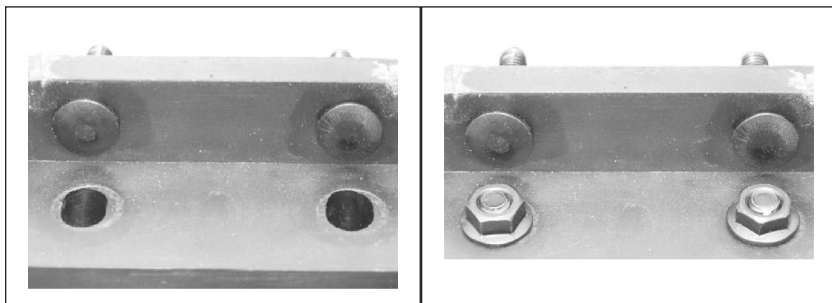

Fig.6 Fig.7
- Insert two coach bolt (M6X25) into the holes on the top of guide for fence pressure pad (Fig. 6).